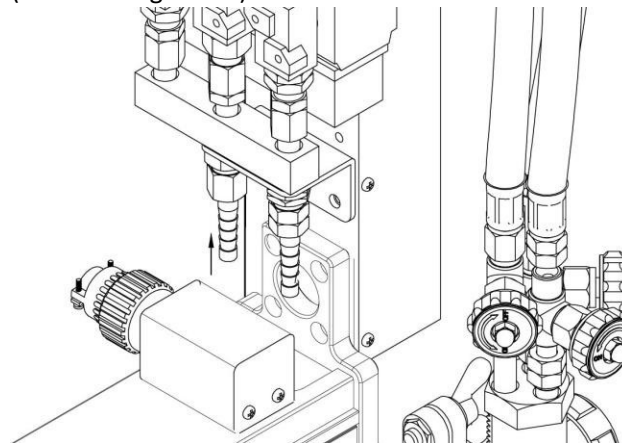

Figure 5
1. Hose connection: Connect the oxygen connecting elbow and the gas connecting elbow to the connector of the crossbar. (Shown in Figures 5)